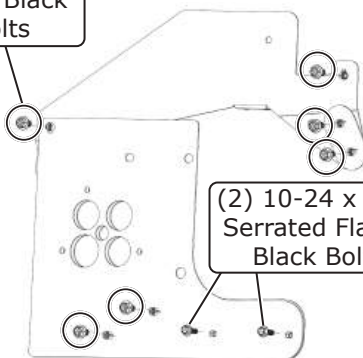

Figure 4
11. Remove 1/4" studs. Start all fasteners before tightening (See Figures 4 and 5, below). Install the OEM heater hose cover. Ensure the A/C hoses clear the pinch seam on the side of the firewall (See Photo 8, below). Align and level the evaporator assembly and tighten the fasteners.